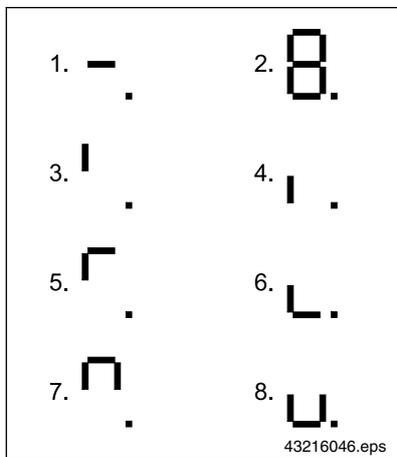

Fig. 12
- Operating statuses ⇒ Fig. 12, Page 32,